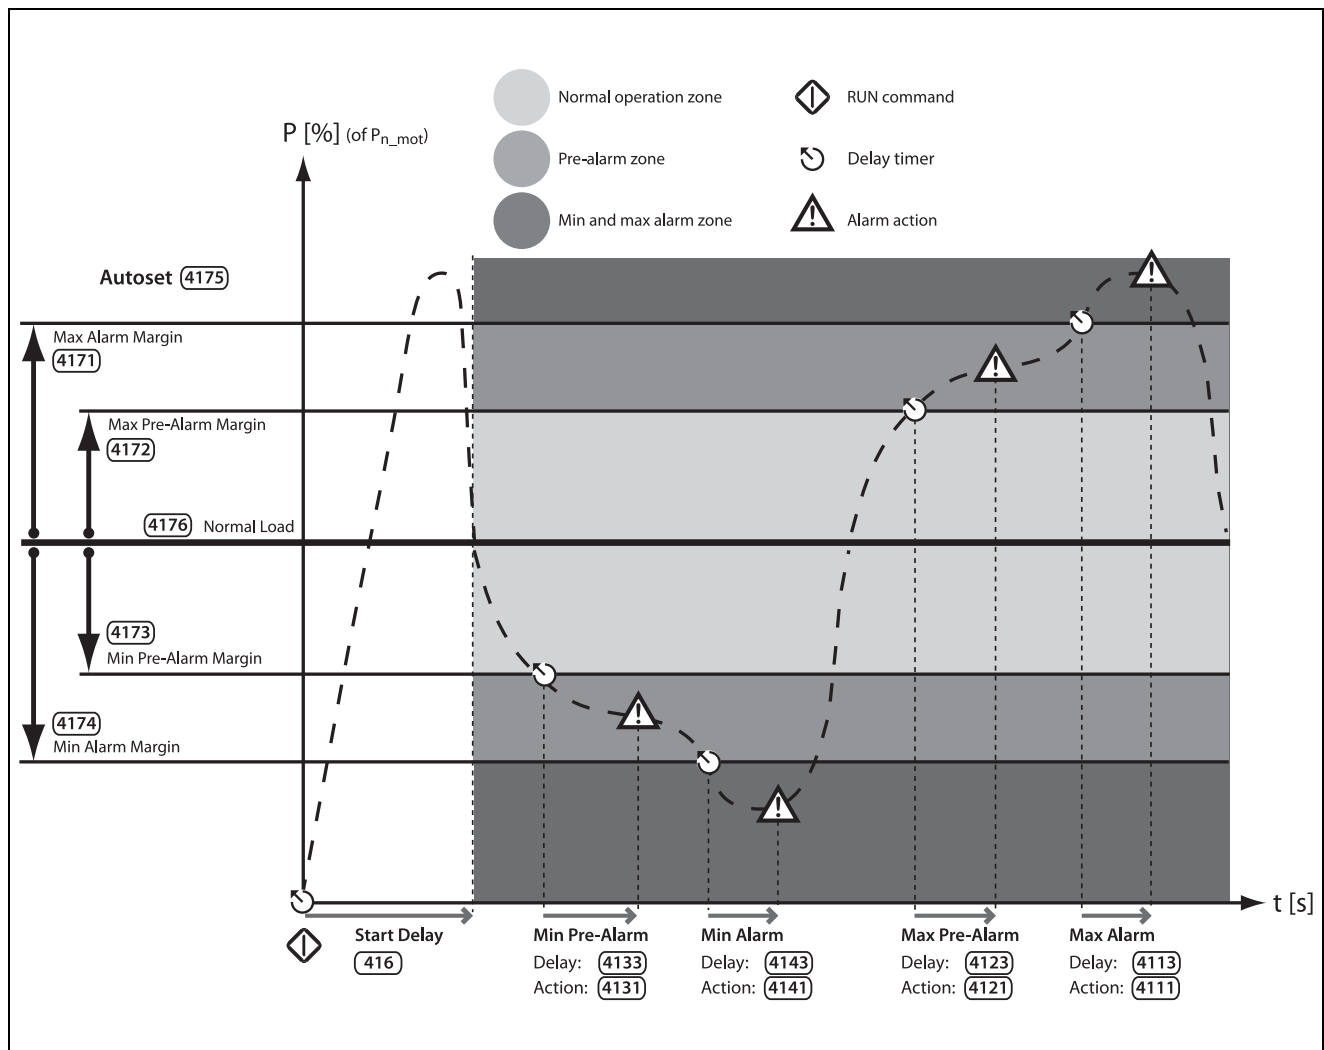

Fig. 64 Autoset load monitor alarm margins.
2. “Autoset” configuration, for which the alarm levels are automatically set, based on “Normal Load” \pm four “Alarm Margins” (Fig. 64).
See Fig. 64. The quickest way to adapt the monitor to different load situations is to use the “Autoset” function, which automatically applies four “Alarm Margins” to a registered “Normal Load” level whilst the motor is running. The “Alarm Margins” are set as a percentage added to or subtracted from the “Normal Load”, which is the shaft power during normal operation conditions. See calculations in Table 31, page 112. The “Normal Load” is expressed as a percentage of the nominal motor power (i.e. 100% normal load equals the motor power set in menu [223]).